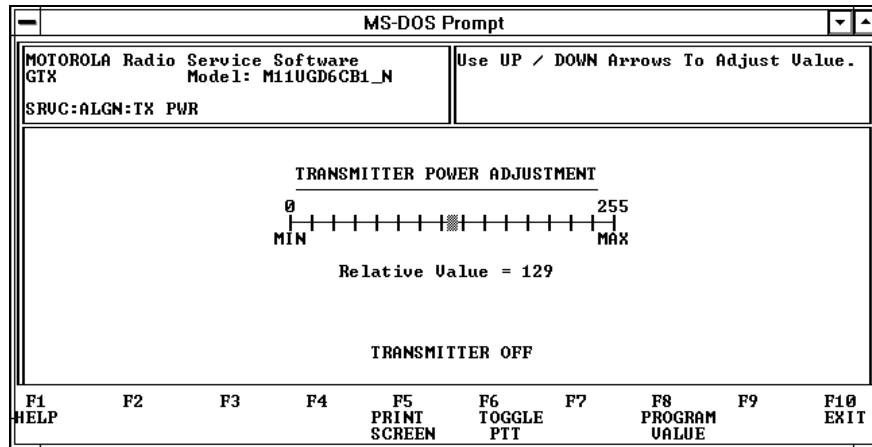

Figure 11.7 – Transmit Power Adjustment
1. Press F3, "Set TX POWER" from the board replacement menu. The transmitter power adjustment screen is shown in Figure 11.7.